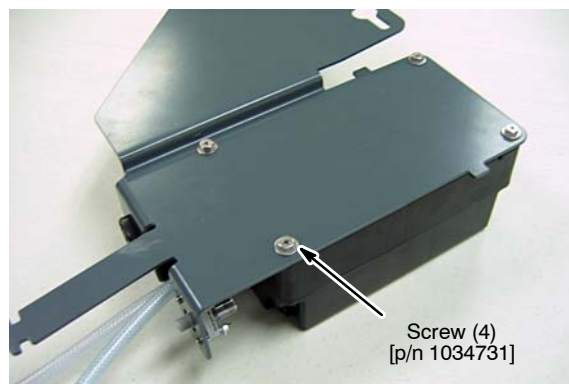

Fig. 30
3. Using four m6x1.00x16 sems screws [p/n 1034731], attach the *ec-H2O* module mounting bracket [to the *ec-H2O* module as shown (Figure 30).